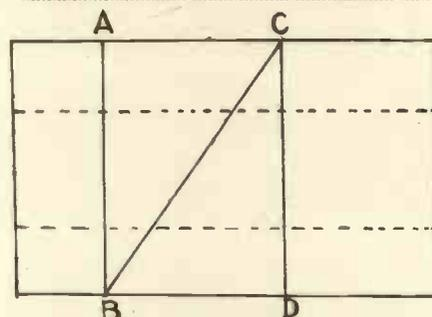

Fig. 5.—Method of cutting the cork to support the glass plates.
First bore a clean hole $\frac{1}{2}$ in. in diameter through the cork. Then with an indelible pencil draw a ring round the outside of the cork, at a distance of about $\frac{1}{2}$ in. from one end (AB, Fig. 5); $1\frac{1}{2}$ in. from this ring draw another (CD). Then make a clean cut through the cork from the top (C) of one ring to the bottom (B) of the other.
is bevelled to a sharp edge, whilst the upper edge of the V-shaped slot in the aluminium strip is treated in the same way. Fig. 5 shows an enlarged sketch of a section through this part of the mask.